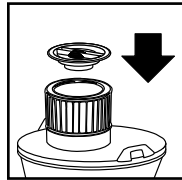

FIGURE 22
35. Place filter retainer into the top of the cartridge filter, hold the tank cover with one hand, turn the handle on the filter retainer clockwise to tighten, locking the filter into place. **FIGURE 22, 23.**